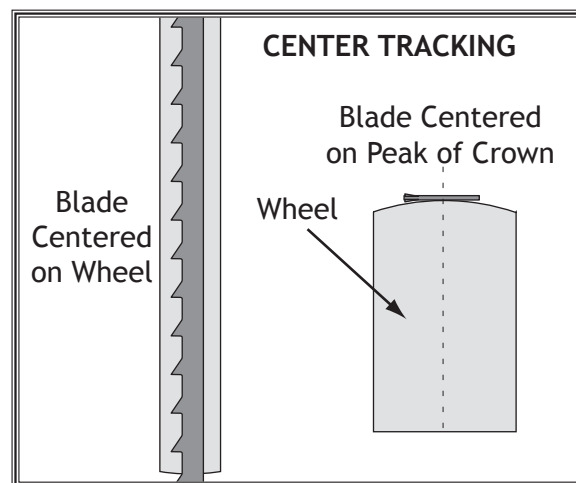

Figure 15. Blade center tracking.
6. Rotate the upper wheel by hand several times (at least three) and watch how the blade rides on the wheel crown. See **Figure 15** for an illustration of this concept.